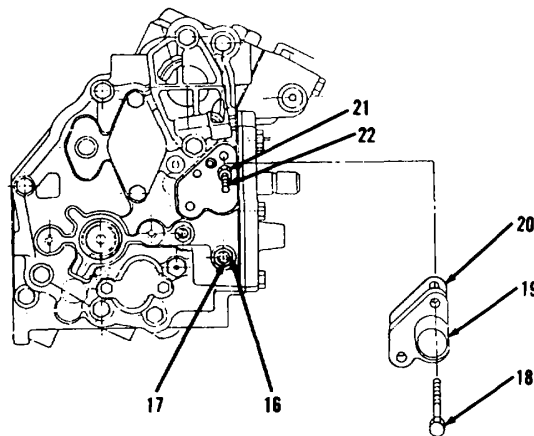

Figure 3-108.
1. Remove two bolts (18), cover (19) and gasket (20, Figure 3-108) from rear governor. Discard gasket (20). Remove all gasket material from mounting surfaces.